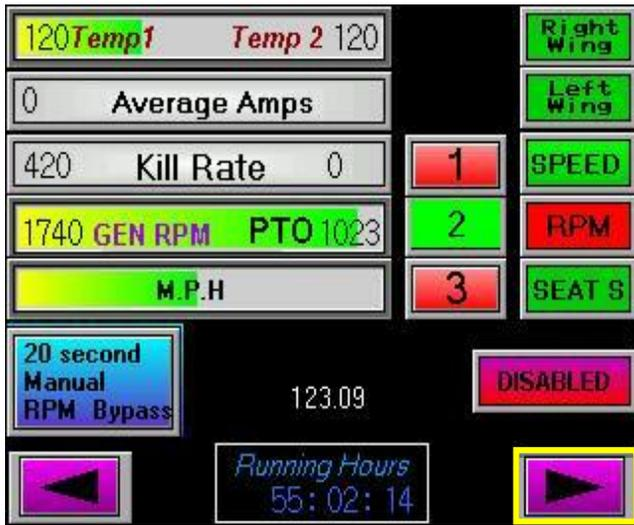
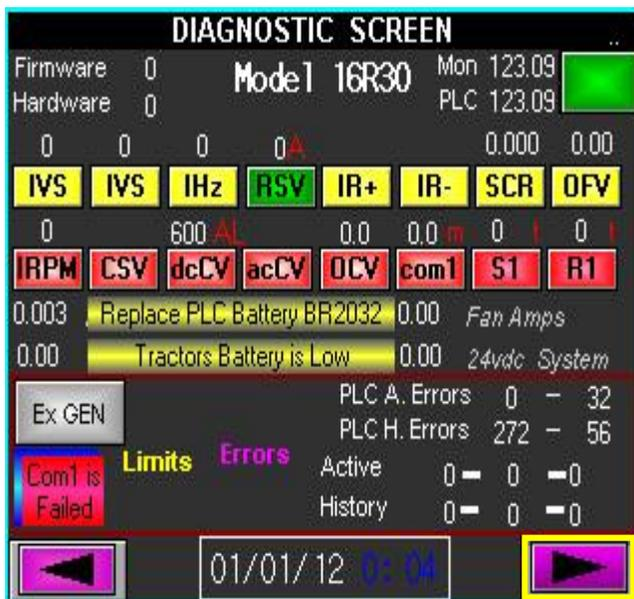
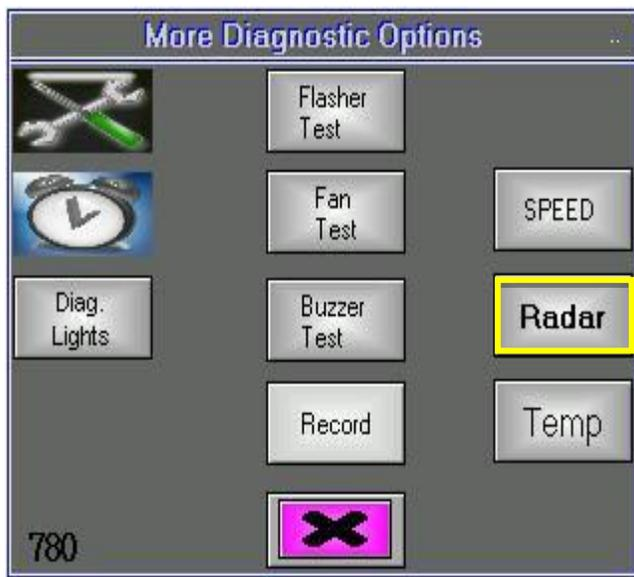

Fig. 2
Fig. 3
Fig. 4
3. Advance to the Radar calibration screen by first pressing the pink/purple right arrow at the bottom of the run screen (See Fig. 2 on next page). Then advance again from the Diagnostic screen by pressing the pink/purple right arrow at the bottom of the diagnostic screen (See Fig. 3 on next page). Next press and **hold** the button marked RADAR on the screen titled "More Diagnostic Options" (See Fig. 4 on next page).